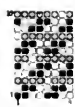

FIG. 40
*Example.*—Find the proper texture for warp and filling, and also ascertain the weight of flannel per yard from loom (exclusive of selvage). Cloaking: Warp 5-run, filling 5-run, backing 2½-run. Weave, see Fig. 40 (8 warp threads and 12 picks in repeat). Take-up of warp, 10 per cent. Width of cloth in reed, 72 inches (exclusive of selvage).